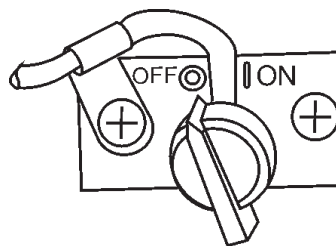

Figure 14. ON/OFF Switch (OFF Position)
3. After the engine cools, turn the engine ON/OFF switch to the "OFF" position (Figure 14).